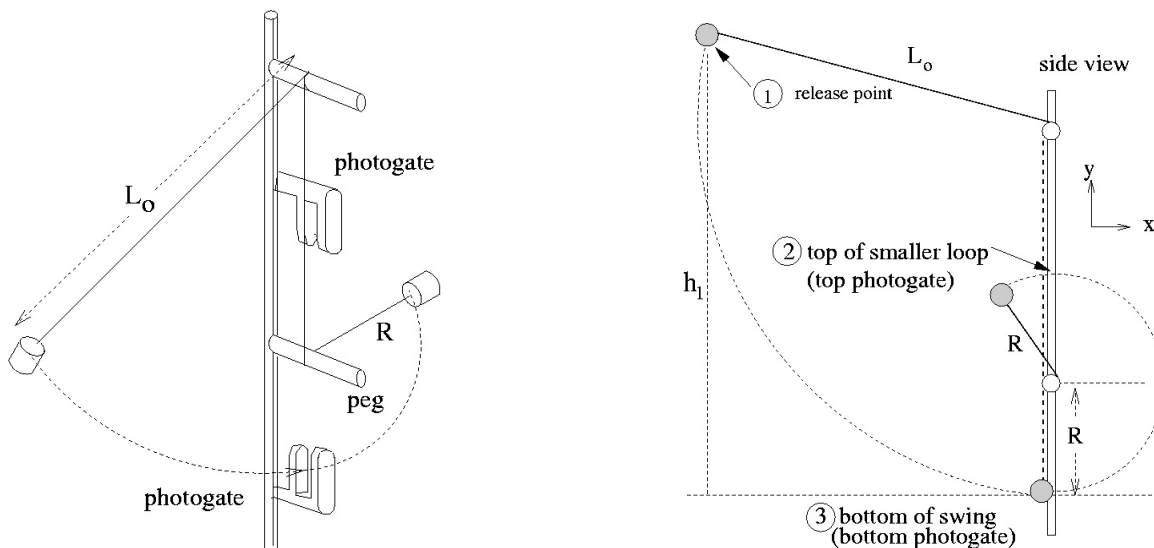

Figure 1: Basic configuration and parameters for peg and pendulum experimental setup.
**Materials:** *Peg and pendulum setup (Figure 1); two photogates with compatible interface and software; meterstick; triple beam balance; and Vernier caliper.*
The lab apparatus is shown in Figure 1. This lab will use concepts of conservation of mechanical energy and circular motion to predict the minimum height from which you can release the bob and have it pass around the smaller loop without any slack when at the top. You will then test your prediction by experiment.
These parameters are necessary for the theoretical calculations; see Figure 1 for clarification. Carefully measure and record:
2. Start with the bob at rest and determine the minimum height  $h_1$  to release the bob so that it has just enough energy to go around the lower peg without any slack in the string as the bob passes through the top of the smaller loop (position 2 in Figure 1). Remember, this is an *experiment* – hone in on  $h_1$  by trial until you and your partner agree on the best  $h_1$  for this condition. [Suggestion: Start with an  $h_1$  that is intentionally too low and systematically increase  $h_1$  by  $\sim 2$  cm until you find a position that is close to meeting the desired condition. Then make smaller changes to  $h_1$ , as needed.]
3. Once you have decided on an appropriate starting height, release the bob from that position ( $h_1$ ) then measure and record the time it takes for the bob to pass through each photogate. Repeat these measurements for a total of, at least, five (5) times per photogate. Average the results to yield a single time for each photogate.